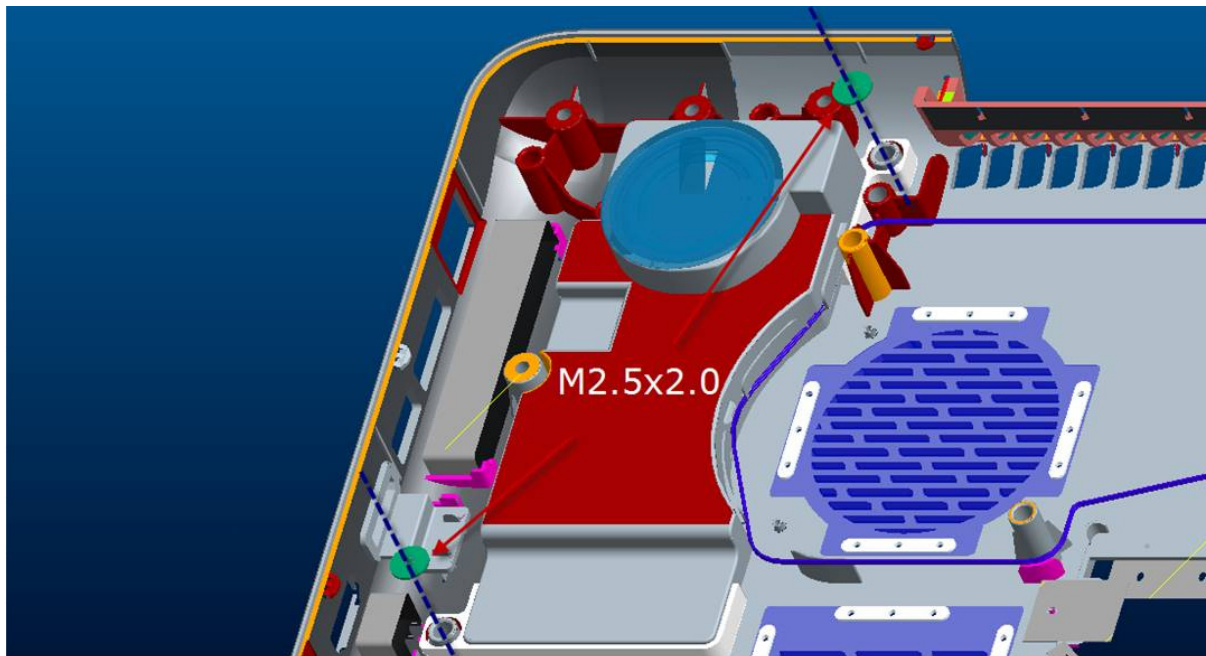

Figure 4-22-1 Removing the securing screws at left side.
(See Figure 4-22-1 to 4-22-3).
4.23 Application for Thermal pad and grease on CPU, North Bridge, and VGA board (see Figure 4-22-1 to 4-22-3)